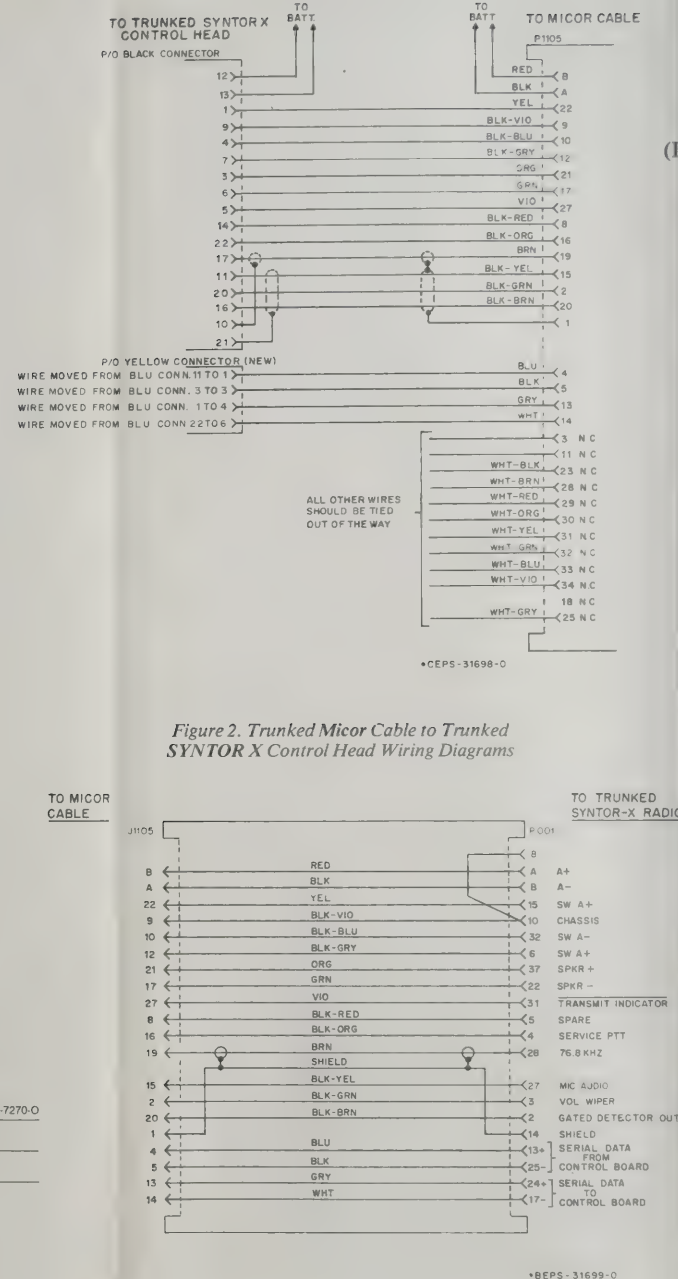

Figure 2. Trunked Micor Cable to Trunked SYNTOR X Control Head Wiring Diagrams
Step 1. Remove the following wires from the blue connector of the TKN6454B Micor Cable Kit (using provided tool, part no. 66-84690C01), and install these wires in the provided yellow connector, part no. 14-84590B06. (Refer to Figure 2.)